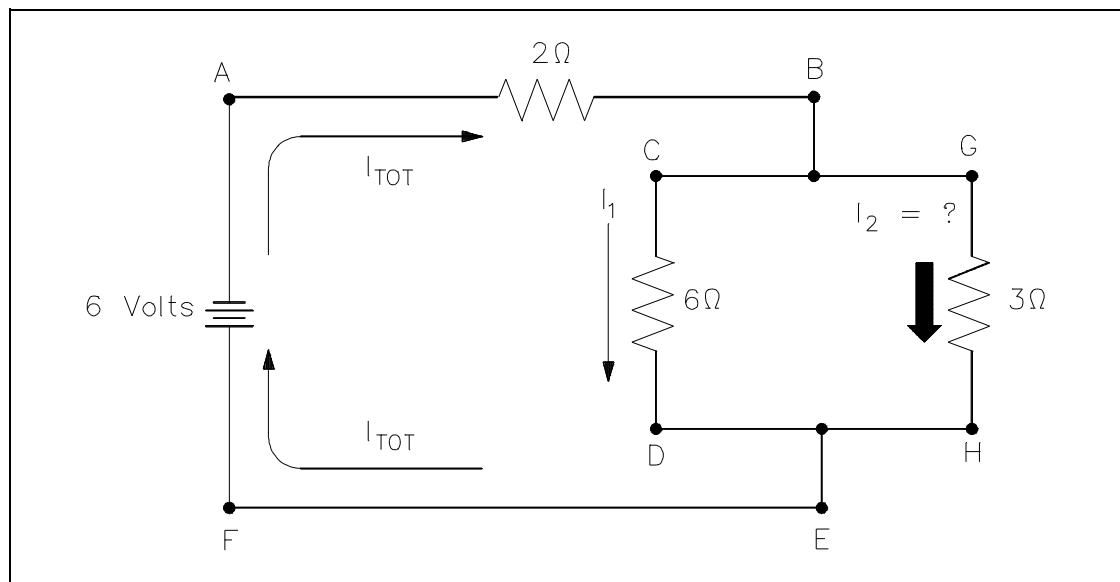

Figure 36 Using the Current Law
**Example:** Find  $I_2$  in the circuit shown in Figure 36 using Kirchhoff's voltage and current laws.